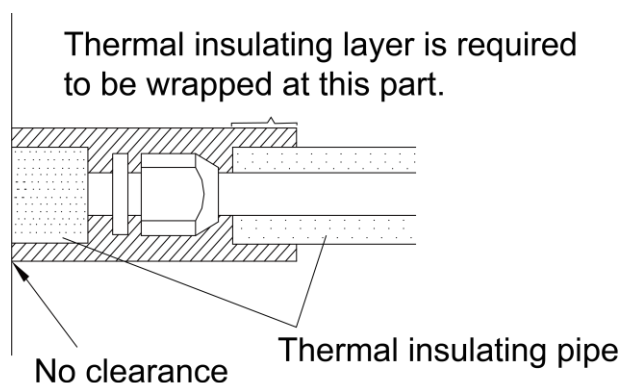

Fig.4.3.8
- 3) Joints at indoor and outdoor units should be wrapped with insulating material and leave no clearance between pipe and wall. See Fig.4.3.8.